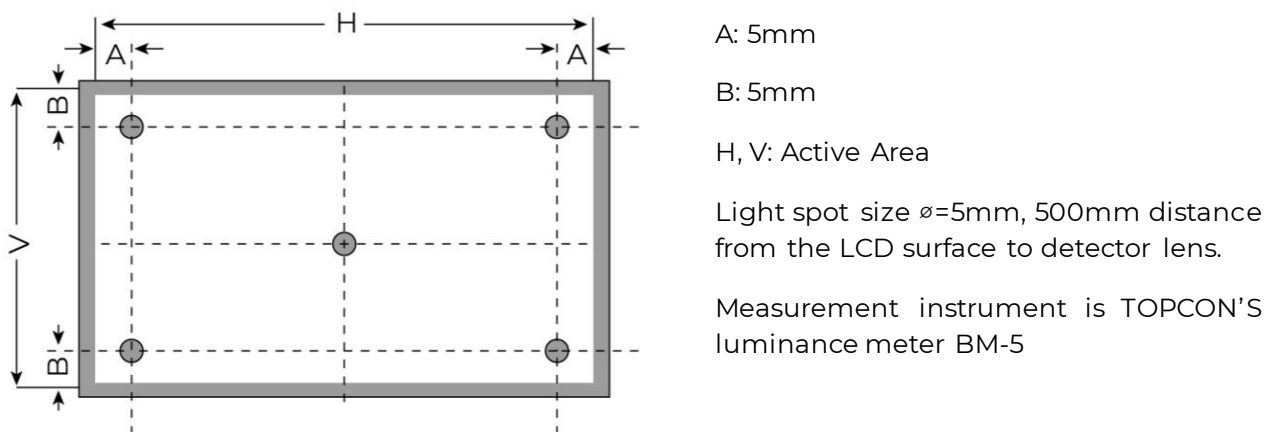

Figure 3. Measuring method for Contrast ratio, surface luminance, Luminance uniformity, CIE (x, y) chromaticity
**Note 1.** Contrast Ratio (CR) is defined mathematically as below, for more information see Figure 3.
**Note 2.** Surface luminance is the LCD surface from the surface with all pixels displaying white. For more information see Figure 3.
**Note 3.** The uniformity in surface luminance  $\delta$  WHITE is determined by measuring luminance at each test position 1 through 5, and then dividing the minimum luminance of 5 points luminance by maximum luminance of 5 points luminance. For more information see Figure 3.